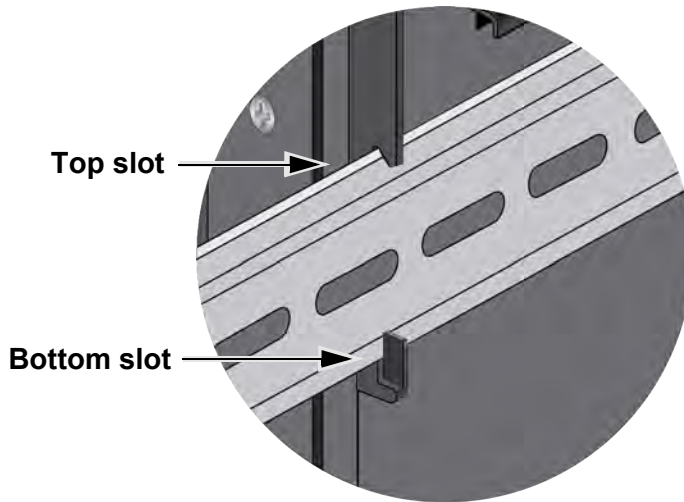

Figure 27. Verifying the DIN Rail Installation
5. Visually inspect the bracket to verify that the DIN rail is now fitted into the top and bottom slots of the bracket, on both the left and right sides of the switch. Refer to Figure 27.